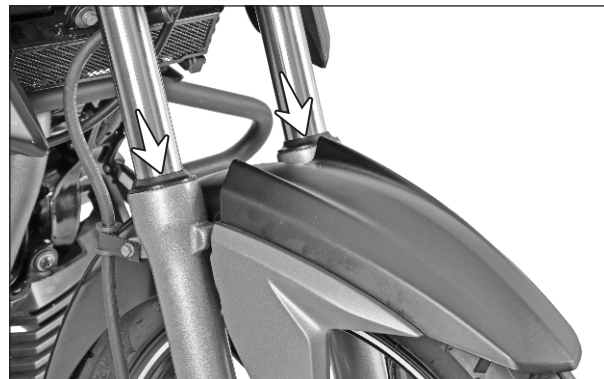

Fig. 2.84
- Inspect both the leg assemblies of front fork for any oil leak / abnormality. (Fig. 2.84) If found any, front fork leg assemblies need to be serviced.